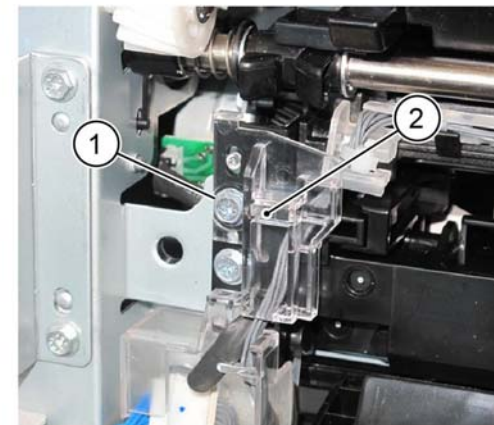

Figure 3 Harness holder removal
6. Remove the harness holder, Figure 3:
- a. Remove the screw (1).
- b. Remove the harness holder (2).